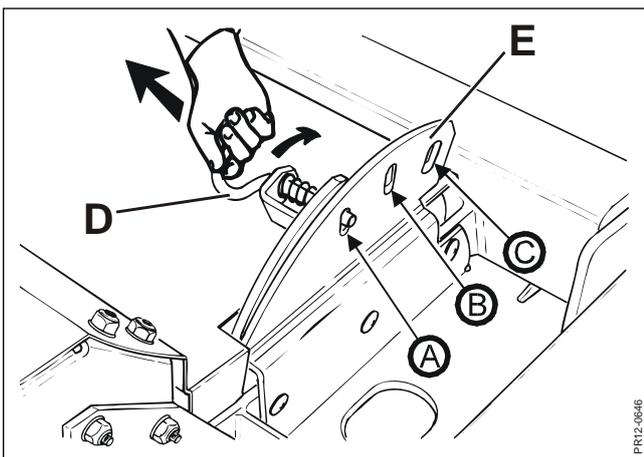

Fig. 3-17
Fig. 3-17 The system is operated with the handle **D** which can be placed in 3 positions on the bracket **E**. The distance of the conditioner plate to the rotor is changed by moving the handle **D** to one of the other holes in the bracket **E**. If the handle is placed in pos. (A), the distance between the conditioner plate and the conditioner fingers is short, in pos. (B), the distance is medium and in position (C) the distance is long.